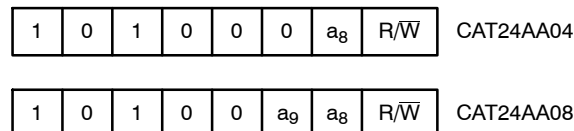

Figure 3. Slave Address Bits
The Master addresses a Slave by creating a START condition and then broadcasting an 8-bit Slave address (Figure 3). The four most significant bits of the Slave address are 1010 (Ah). The next three bits from the Slave address byte are assigned as shown in Figure 3, where a_9 and a_8 are internal address bits. The last bit, R/\overline{W} , instructs the Slave to either provide (1) or accept (0) data, i.e. it specifies a Read (1) or a Write (0) operation.